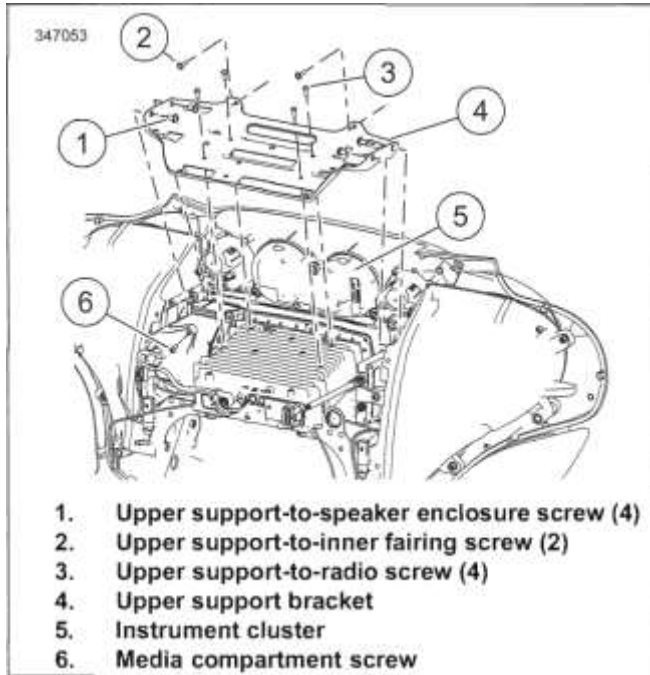

Figure 3-108. Upper Support Bracket
1. See Figure 3-108. Remove four screws (1).
2. Remove two screws (2).
3. Remove four screws (3).
4. Remove screw (6) securing media compartment.
5. Remove upper support bracket (4).
1. See Figure 3-108. Place upper support bracket (4) into position.
- a. Tighten screws (2).